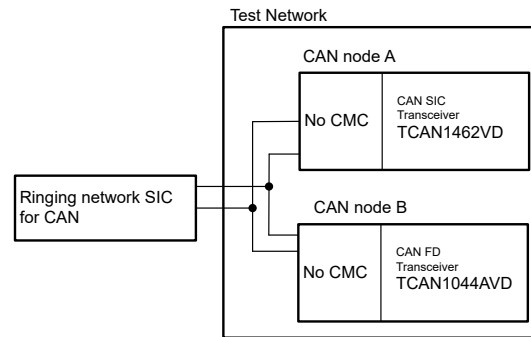
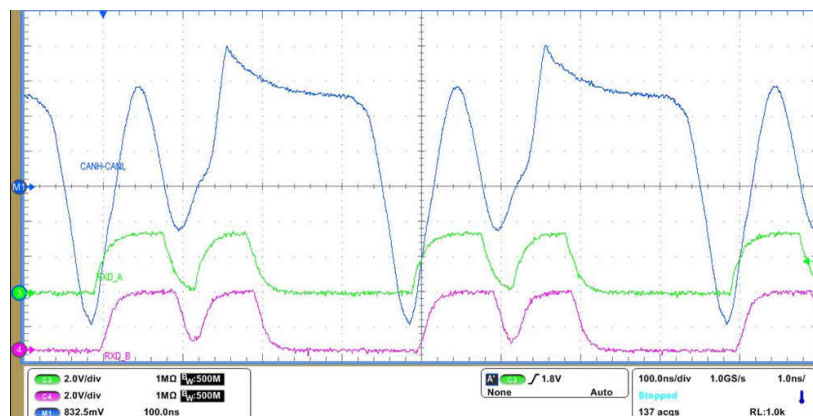
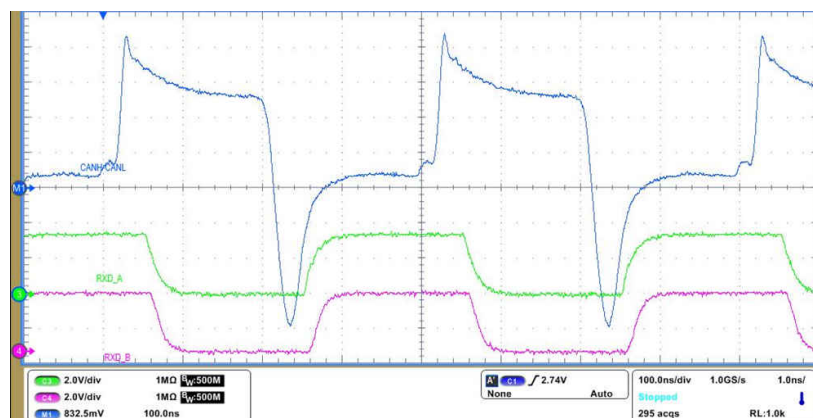

Figure 4-1. Network with Two Node and Ringing Circuit
Figure 4-2. Waveforms with CAN-FD Driving the Network
Figure 4-3. Waveforms with CAN SIC Driving the Network
- Two-node point-to-point communication, where node 1 is the TCAN1462 and node 2 is the TCAN1044A, a regular CAN-FD transceiver, as shown in Figure 4-1. The ringing network (specified by CiA 601-4) emulating a complex star topology is connected across the CAN bus terminals. As the waveforms in Figure 4-2 and Figure 4-3 show, the CAN bus and RXD signals look clean when the TCAN1462 is driving. But when the TCAN1044A is driving, there is considerable ringing on the bus and RXD glitches.